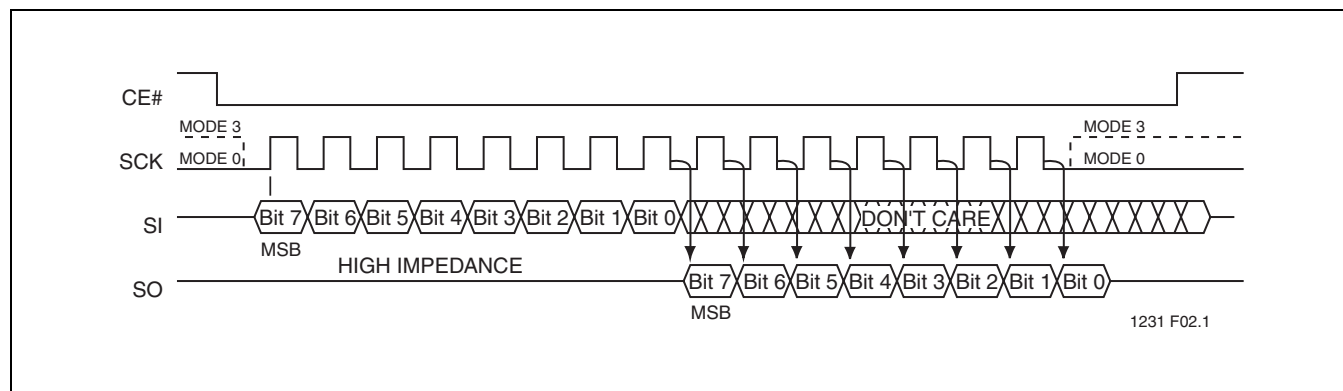

FIGURE 2: SPI PROTOCOL
The SST25VF020/040 supports both Mode 0 (0,0) and Mode 3 (1,1) of SPI bus operations. The difference between the two modes, as shown in Figure 2, is the state of the SCK signal when the bus master is in Stand-by mode and no data is being transferred. The SCK signal is low for Mode 0 and SCK signal is high for Mode 3. For both modes, the Serial Data In (SI) is sampled at the rising edge of the SCK clock signal and the Serial Data Output (SO) is driven after the falling edge of the SCK clock signal.